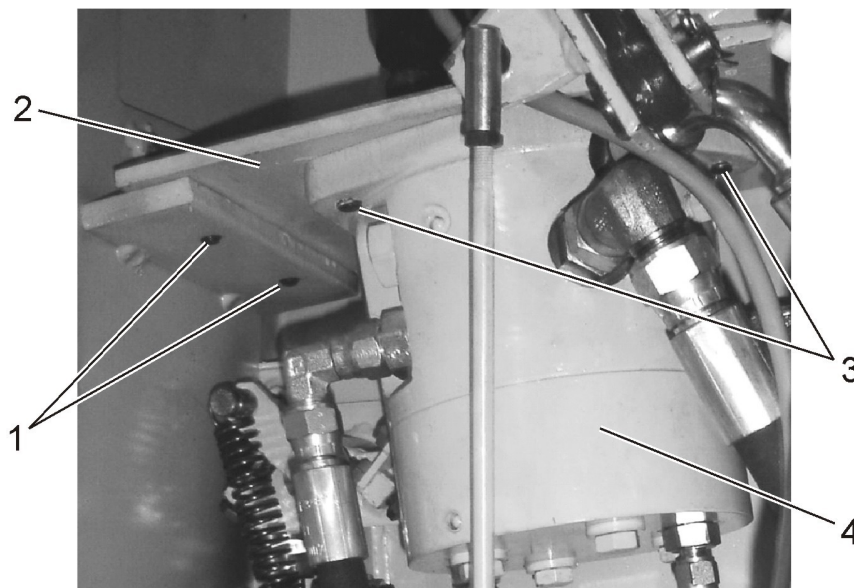

Fig. 7C.74. Drive Train Control Valve Disconnecting Points
9. Unscrew four mounting bolts (1, Fig. 7C.74) securing valve bracket (2) to the platform and remove the valve with bracket from the platform. Unscrew three mounting bolts (3) securing drive train control valve (4) to valve bracket (2) and remove the bracket (2) out of the valve (4).